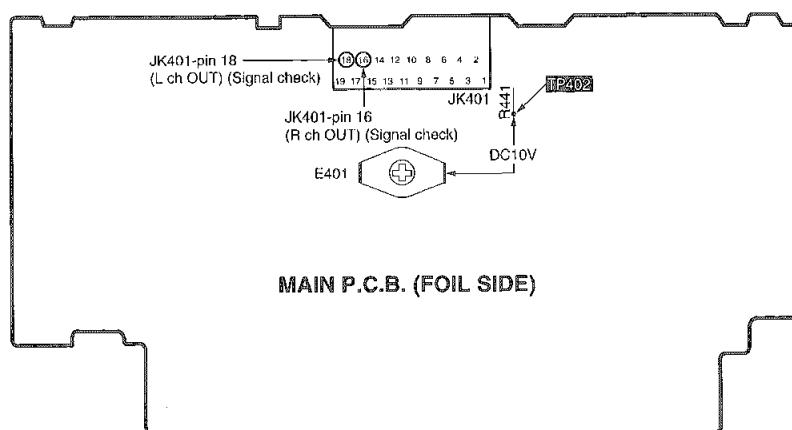

Fig. 9-1.
1. Apply 10 V DC power to the section between **TP402** (far side from rear panel of R441) and earth plate (**E401**). Refer to Fig. 9-1.
Connect the oscilloscope or the speaker with built-in amplifier to the section between **JK401-pin 16** (R ch OUT) and earth plate (**E401**) (GND) as well as the section between **JK401-pin 18** (L ch OUT) and earth plate (**E401**) (GND) and check if the signals are outputting from this unit. Refer to Fig. 9-1.